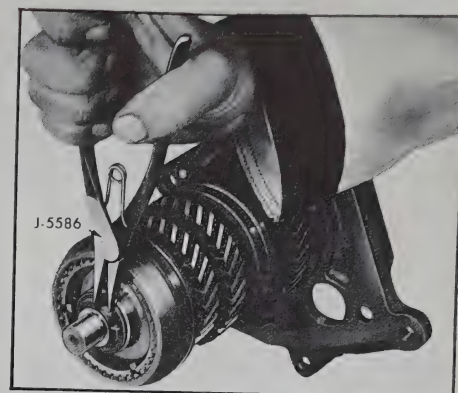

Figure 4-128—Removing Mainshaft Front Snap Ring
18. Remove mainshaft front snap ring (see Figure 4-128), and slide third and fourth speed clutch assembly, third speed gear and synchronizing ring, second and third speed gear thrust washer (needle roller bearing), second speed gear and second speed synchronizing ring from front of mainshaft.